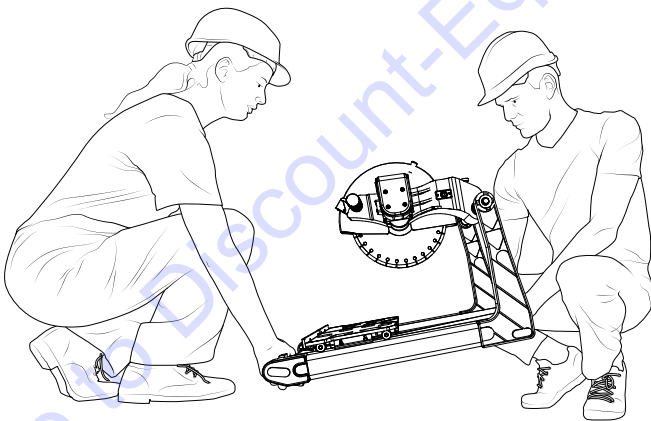

Figure 20. Moving the Saw
4. Lift and move the saw using the frame handles at the front and rear of the saw (Figure 20).